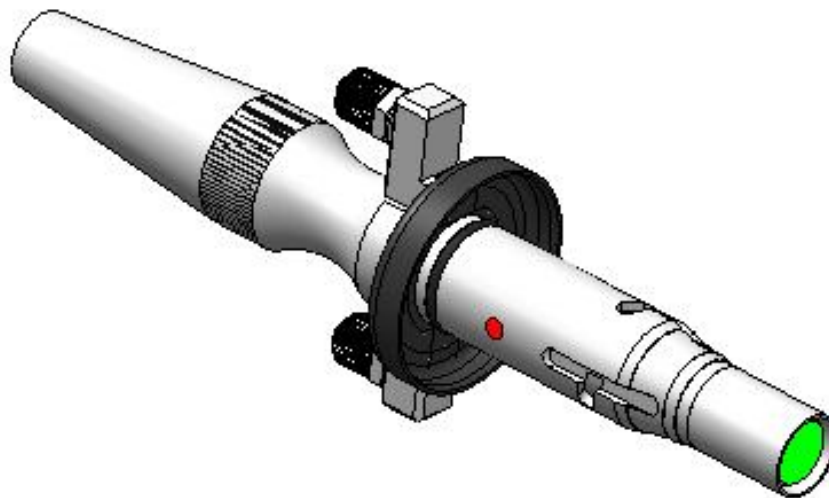

Figure 1.9
- ② Insert the dust cover from the white box into the fiber head, as shown in Figure 1.9: